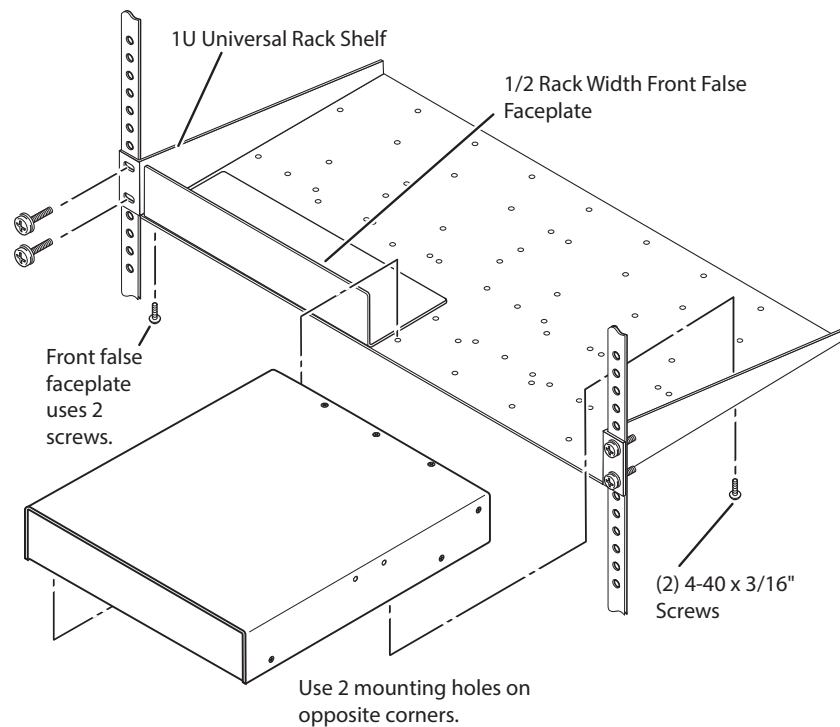

Figure 34. Mounting the NetPA AT on a Universal Rack Shelf
2. Mount the NetPA AT on the rack shelf, using two 4-40 x 3/16 inch screws in opposite (diagonal) corners to secure the unit to the shelf (see figure 34).